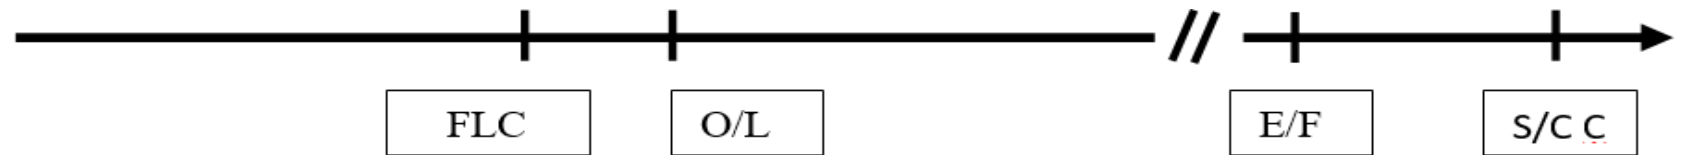

Figure 1.3: Types of over-currents
- An earth fault E/F or short circuit S/C condition as shown in Figure 1.3. A short circuit S/C is an overcurrent condition that leaves the normal current path and which greatly exceeds the normal full load current of the circuit by a factor of tens, hundreds, or thousands. Components and equipment can be damaged by these types of overcurrents.